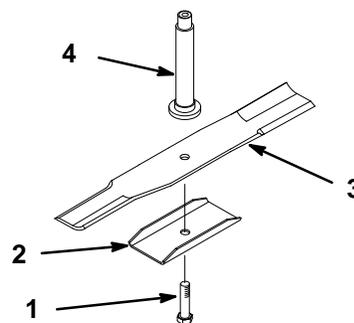

Figure 30
3. Hold the blade end using a rag or thickly padded glove. Remove the bolt, stiffener, and blade (Fig. 30). A block of wood may be wedged between the blade and the mower to lock the blade when you are removing the bolt.